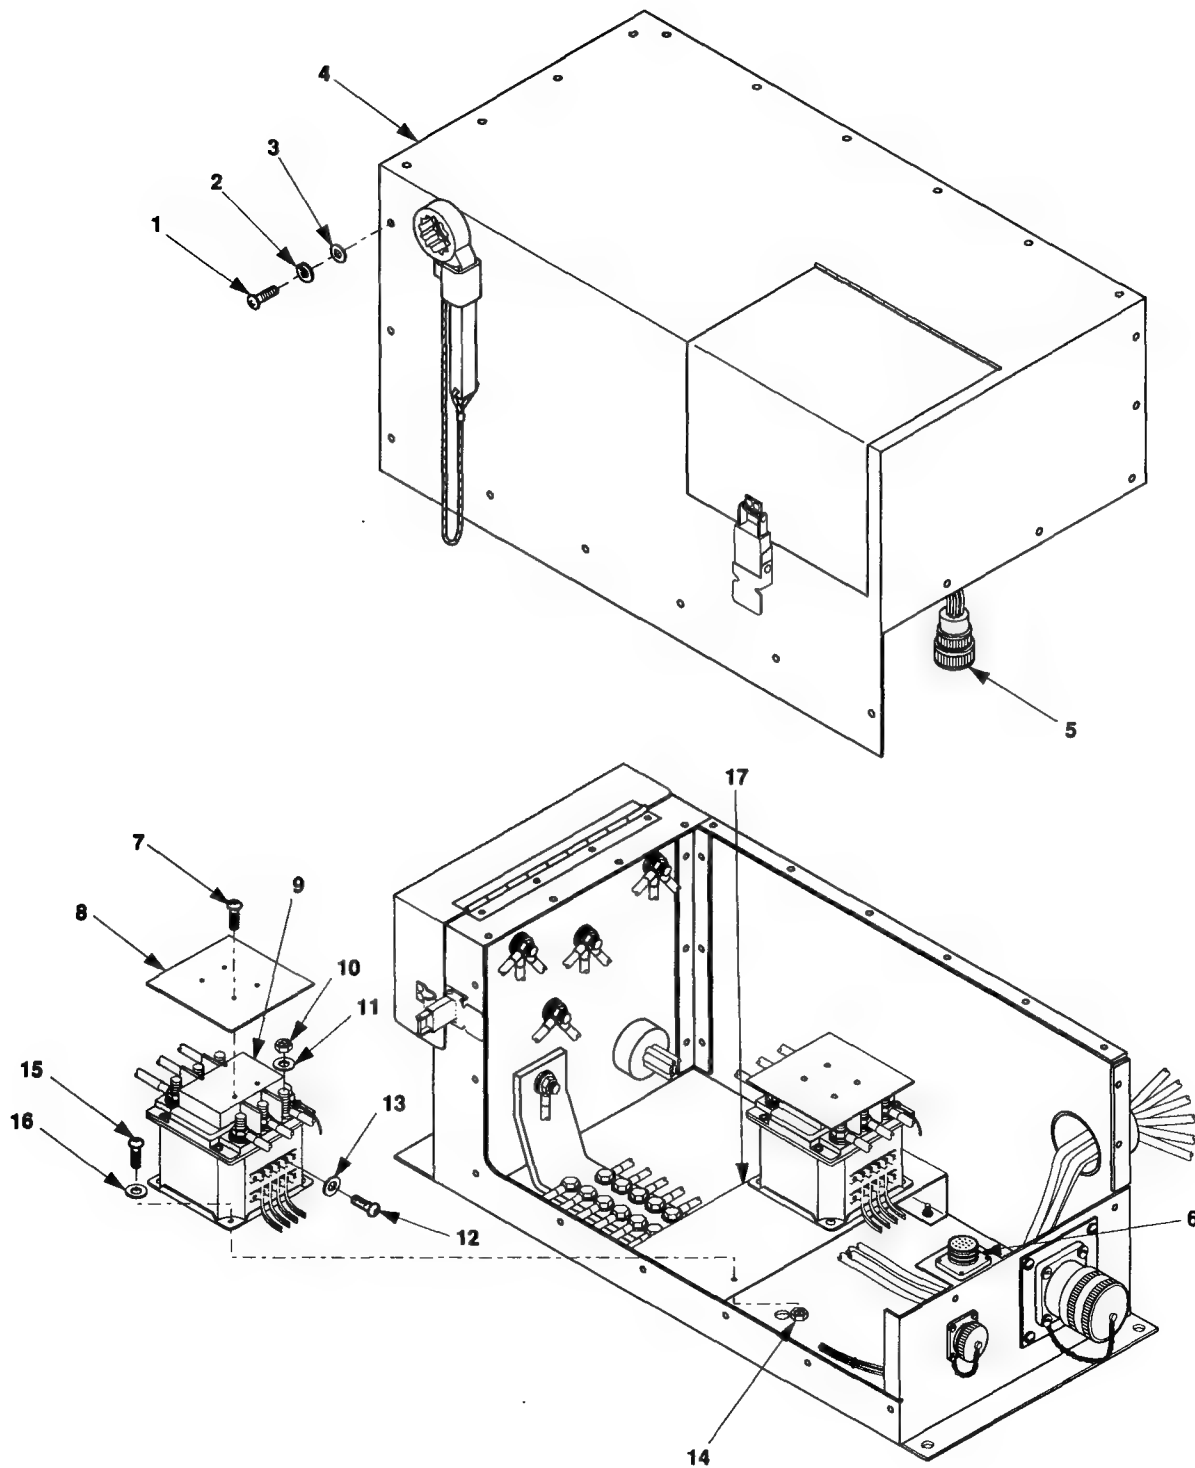

Figure 5-15. Contactor **Maintenance.**
1. Remove 21 screws (1, figure 5-15), lock washers (2), and flat washers (3) that secure the switch box cover (4) to the switch box assembly. Discard lock washers.